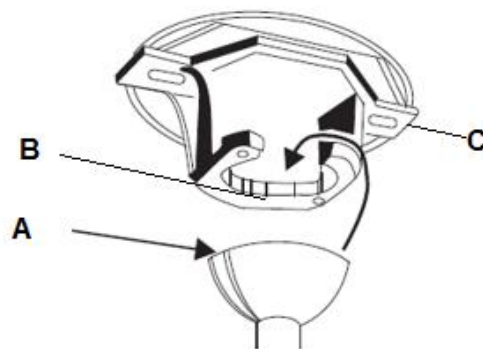

Fig. 5
Lift the fan assembly onto the mounting bracket. Ensure the registration slot (A) of the hanger ball is positioned on the stopper (B) of the mounting bracket (C) to prevent the fan from rotating when in operation. (Fig. 5)